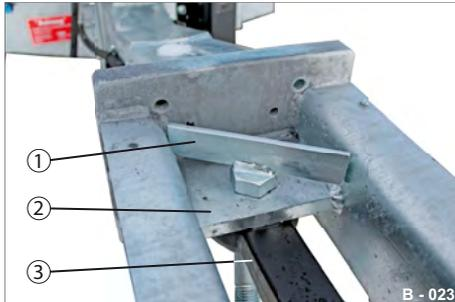
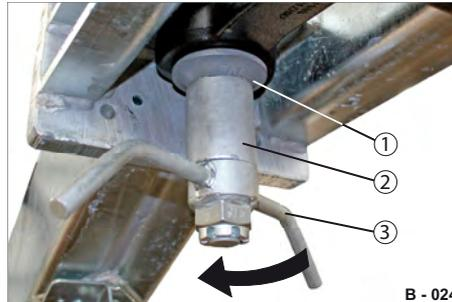

Fig. 32 Towing eye D50 locked at bottom
Fig. 33 Securing the towing eye D50 at bottom
► Insert the fastening bolt (Fig. 32/1) from above through the bracket (Fig. 32/2) and the towing eye (Fig. 32/3).
► Engage the shim rest (Fig. 33/1) and the spacer (Fig. 33/2) from below on the fastening bolt of the towing eye (Fig. 32/3).
► Screw the wing nut (Fig. 33/3) onto the fastening bolt.